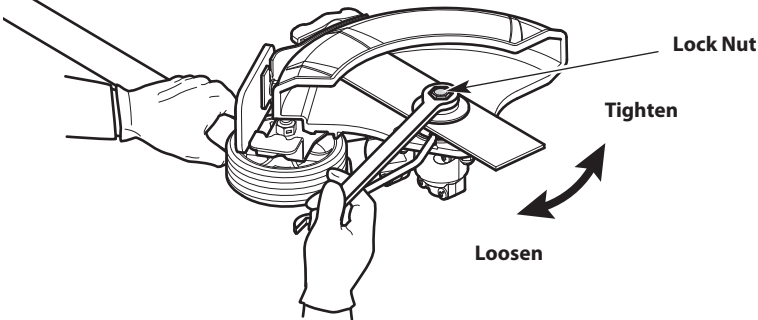

Fig. 9
3. While holding the locking rod, loosen the lock nut by turning it **clockwise** with a wrench (Fig. 9).
6. While holding the locking rod, tighten the lock nut by turning it **counterclockwise** (Fig. 9). Make sure that the blade stays flat and centered against the output shaft while tightening the lock nut.